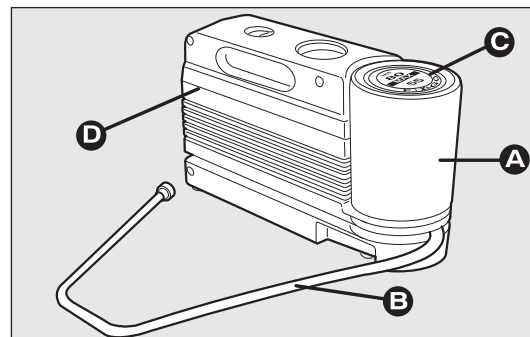

fig. 127
The kit fig. 127 includes:
- ☐ a compressor D-fig. 127 complete with pressure gauge and connectors, located in the compartment;